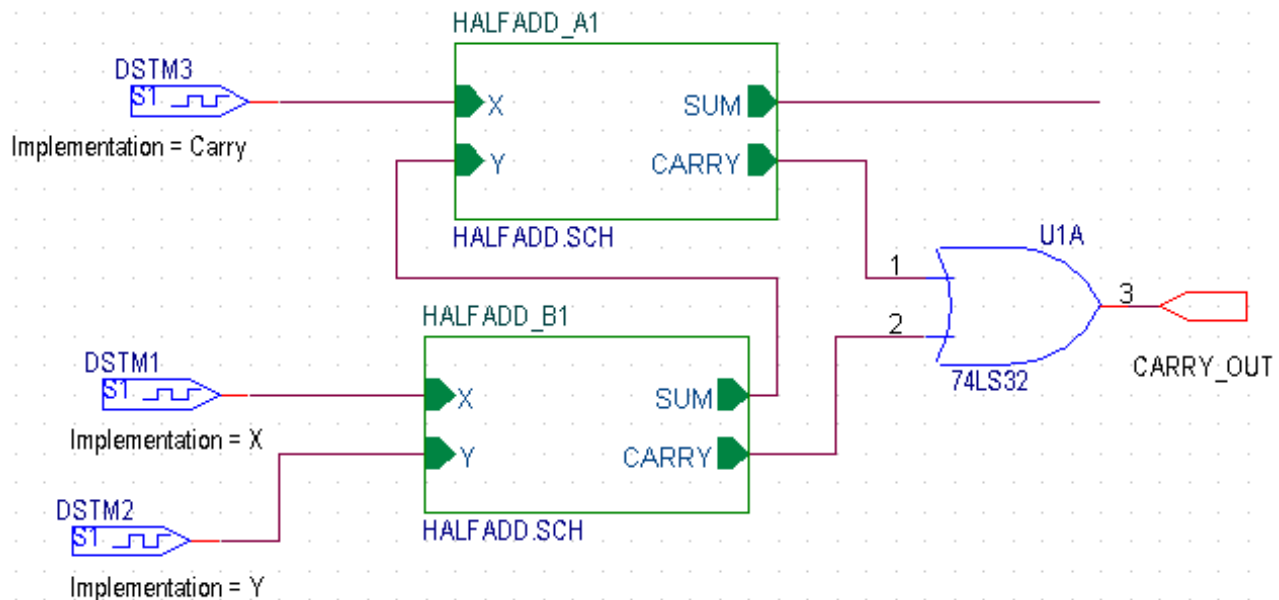

Figure 2-2 The full adder circuit
- 16 Using the Place Part dialog box, add an OR gate (74LS32) to the schematic. (See Figure 2-2 on page 25.)
- 24 Specify the value of the Implementation property as Carry, X, and Y, respectively. See Figure 2-2 on page 25.
- 25 Select the Place Port  button, to add an output port, CARRY_OUT, to the output of the OR gate. (See Figure 2-2 on page 25.)
- 28 Place the output port as shown in the Figure 2-2 on page 25.